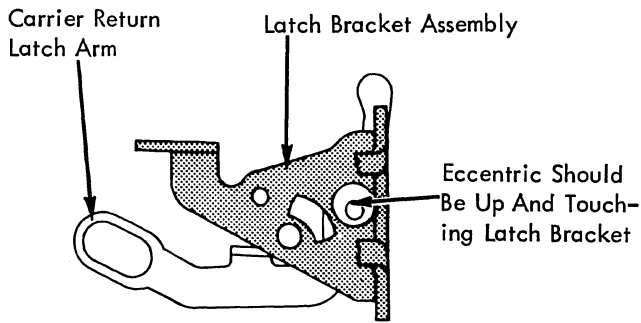

FIGURE 104. Pivot Pin Eccentric (Early Level Machines Only)
- 5. Pivot Pin Eccentric (found on early level machines only) The eccentric collar should be adjusted with the high point up so that it just touches the operational latch bracket (Fig. 104). This prevents the pivot pin from bowing during a print escapement operation. The eccentric should also be adjusted laterally on the pivot pin so that the end play of the pivot pin will be .002" to .005".